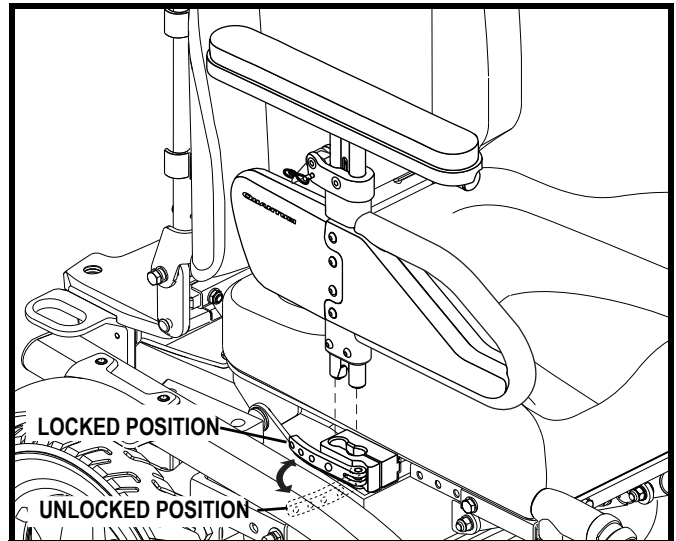

Figure 15. Armrest Removal/Installation
1. Rotate the armrest lock lever forward. See figure 15.
1. Place the armrest assembly into the armrest lock. See figure 15.